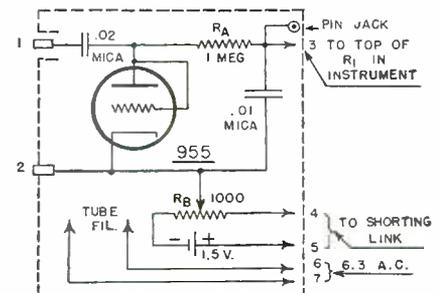

Fig. 2.
r.f. voltages higher than 200 be measured with the measuring head shown. The reader is not restricted to the type of a.c. probe shown in Figure 2. He may please his own fancy in this regard. Rider's *Vacuum Tube Voltmeters* gives working designs for several such probes of different circuit arrangement.
After the d.c. calibration has been completed, it will not generally be necessary to make a separate a.c. calibration, as the instrument will indicate the peak value of alternating voltages applied to the measuring head (Figure 2). However, a check may be made to ascertain that the a.c. attachment is functioning properly. The measuring head (a.c. probe) is connected to the instrument, a known alternating voltage applied to the probe input terminals, and the meter deflection noted. The latter should be the peak value of the applied voltage (1.41 X the measured value as indicated by a common a.c. voltmeter of good accuracy). If the deflection does not attain this value, or if it is desired to have the meter read RMS values, the diode filter resistor (R_2 in Figure 2) may be either increased or decreased to obtain the desired reading.
Before placing the a.c. probe into operation, the diode contact potential must be bucked out by means of the potentiometer R_3 (Figure 2) to prevent a steady deflection of the meter (and